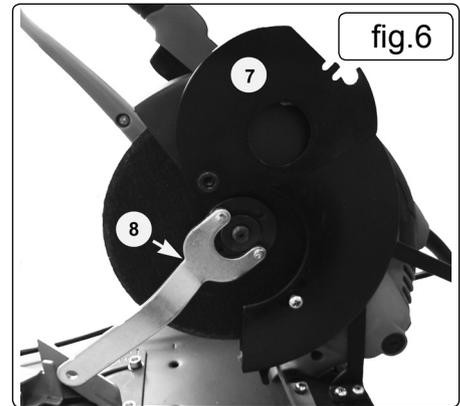

fig.6
- 6.2.4. Spin the static disc guard to its vertical position (fig.6/7). Use the clamping washer removal spanner (fig.6/8) to undo the washer and remove the cutting disc, whilst holding the drive spindle stationary.